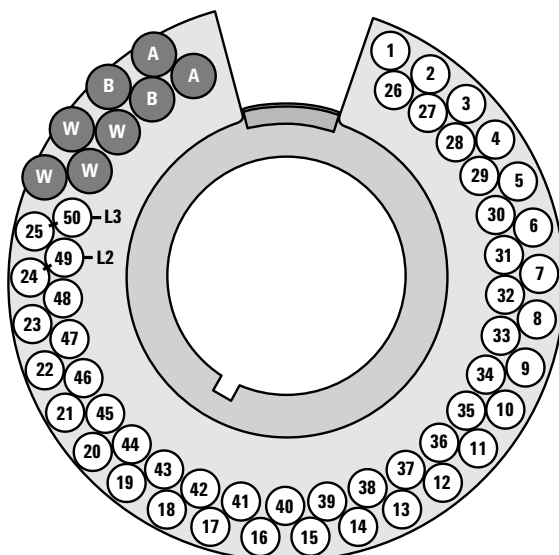

Figure 48 Turret vial locations
When loading vials for sandwich injections, refer to Figure 48 and note the following:
- 3 Place the solvent B vial (L3) in turret position **L3**. Refer to Figure 48 on page 105 for turret position information.